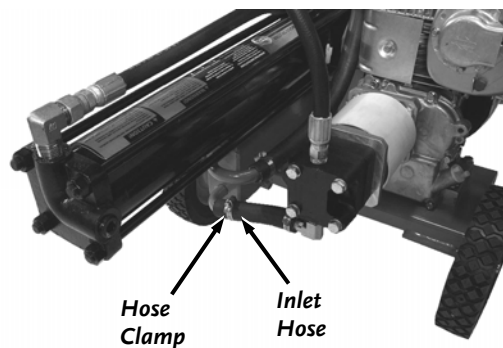

Figure 34
- Loosen the Hose Clamp on the end of the inlet hose (Flat Head Screwdriver) (**Figure 34**).